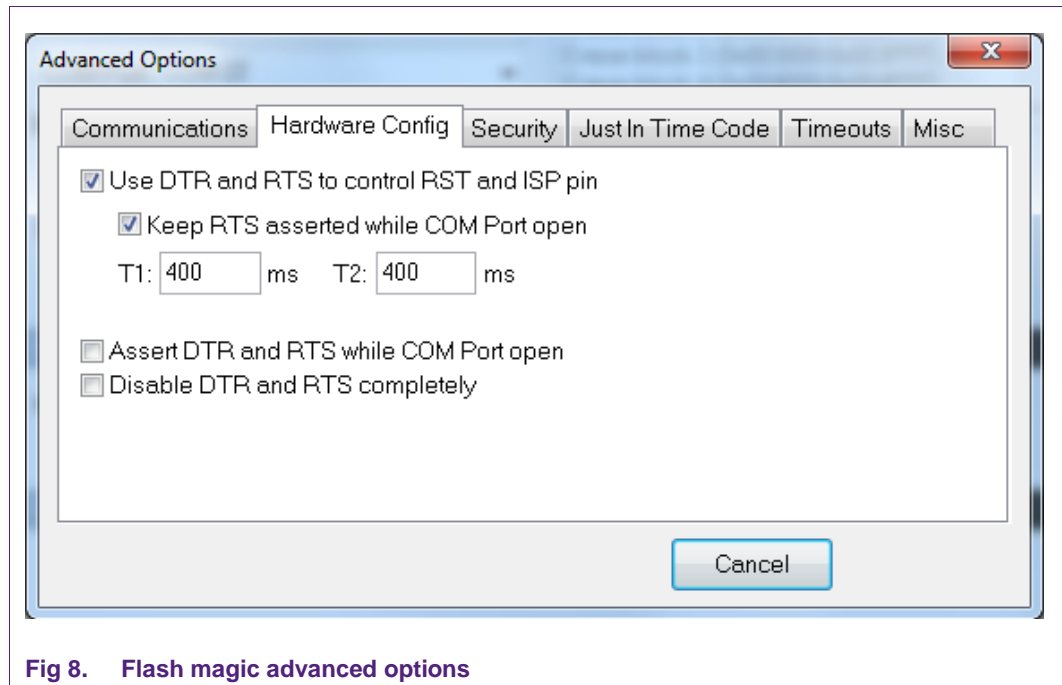

Fig 8. Flash magic advanced options
- Use the “Advanced Options...” item in the “Options” menu to open the tabbed pane with advanced options. The controls in the second tab should be changed to conform to Fig 8.